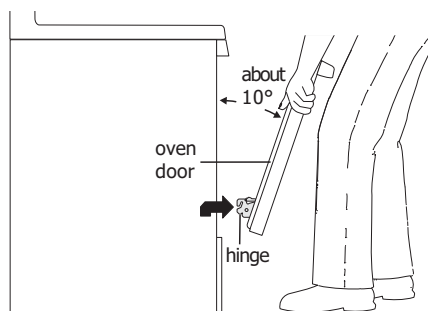

Figure 44: How to remove door
3. Firmly grasp both sides of oven door along the door sides. Do not use the oven door handle (See Figure 44).
1. Firmly grasp both sides of oven door along the door sides. Do not use the oven door handle (See Figure 44).